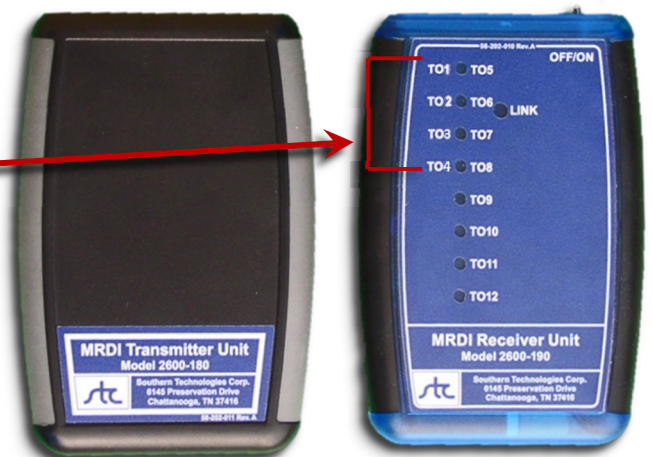

Figure 2 - MRDI Transmitter and Receiver Units
1. Apply power to the transmitter and receiver units. As shown in Figure 2, connect the Transmitter Unit to the 2600-020 AEI Controller or MRDI using the supplied flat cable. Switch on the Receiver Unit soon after connecting the transmitter. The units will automatically pair with one another as indicated by the flashing red Link LED, which is located on the receiver. The Link LED blinks continuously when the units are in communications with each other, but will stop when out of range. *If the units do not pair, see the section on pairing later in this document.*